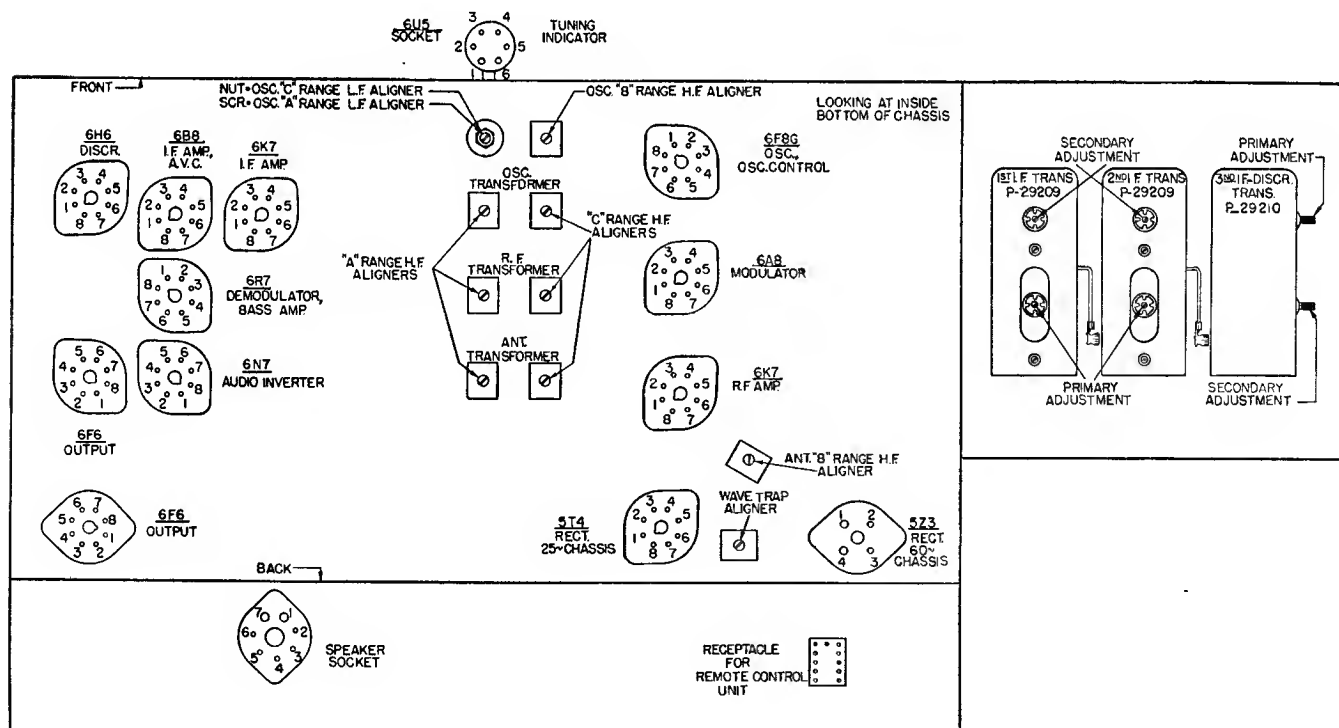

Fig. 1. Terminal Layout for Voltage Measurement Chart and Location of the Aligning Adjustments.
The various values of voltages listed in the following table are obtained by measuring between the various tube socket contacts and the chassis base, with all the tubes in their respective sockets. The receiver is, therefore, in operation when the measurements are made. Figure 1, shows the terminal layout of the sockets with the proper terminal numbers.
Before proceeding with the alignment of any circuits in these receivers, be sure that the Treble Control knob is set for the "Normal" position. The "bass" control should also be set for the "Normal" position. In making any alignment adjustments always adjust the test oscillator's output voltage to the minimum value where a good alignment may still be obtained, except when specifically directed otherwise in these instructions. Figure 1 shows the location of all the aligning capacitors or adjustments for this receiver.
3. Now, noting from Figure 1, the alignment adjustments for the First, Second, and Third I. F.-Discriminator transformers, align the I. F. circuits in the following order: